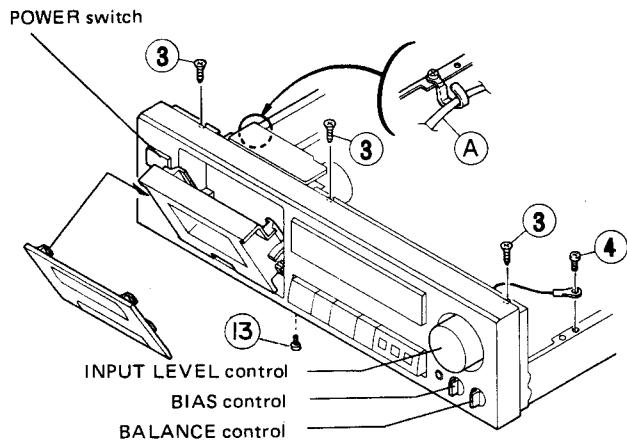

Fig. 2-2
- 4) Remove one screw ④ retaining the earth lug to right chassis.
- 6) Remove four screws ⑤ retaining the front panel ass'y from both sides.
- 7) Remove one screw ⑬ which retains a P.C. board to the mechanism holder from the bottom side (see Fig. 2-2).